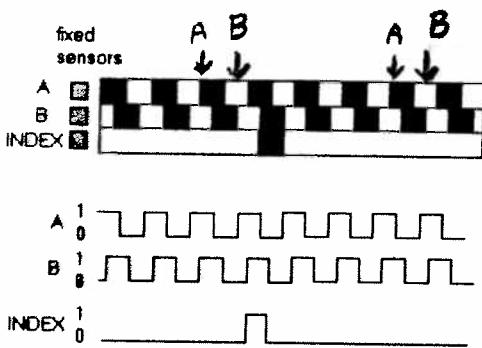

Fig 5. Incremental encoder disk track patterns
- 1) Consider the incremental shaft position encoder shown in Fig. 5. Show TWO possible positions of LED/PT pair A (using arrows) and also TWO possible positions of LED/PT pair B that will produce the same A and B waveforms shown in Fig. 6 using ONLY the TOP encoding strip (thereby greatly simplifying the encoder wheel).
3) Now using the same components as in Problem 2, design a sequential circuit that produces the 2x resolution CW and CCW outputs shown in Fig. 5. What is the advantage of the circuit of Problem 3 over the circuit of Problem 2?